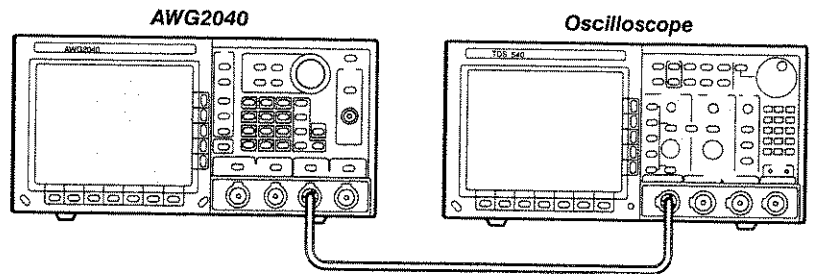

Figure E-17: Marker Waveform Initial Test Hookup
- b. *Hook up the oscilloscope: Connect the AWG2040 MARKER1 output connector through the coaxial cable to the CH1 vertical input connector on the oscilloscope (see Figure E-17).*